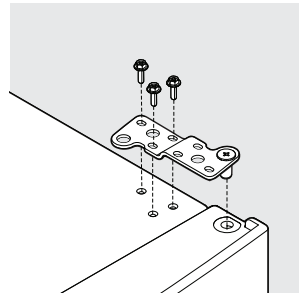

Figure 2
3. Using a 5/16 in. socket, loosen the 3 screws from the top hinge (see Figure 2).